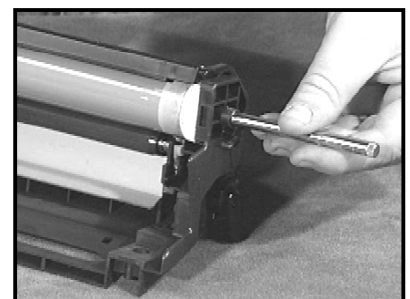

Figure 9
7. Use the small drive punch and hammer to gently drive the OPC axle rod (the end with the white lock ring) 1-2" into the end of the cartridge (fig. 9). When removing the axle rod, be careful not to lose or crack the white ring. Next, grasp the rod that extends from the opposite end of the cartridge and gently twist and pull to remove it from the OPC.